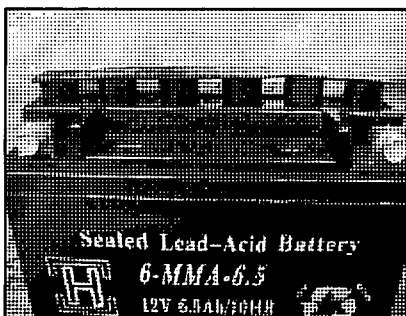

FIGURE 23
- After 30 minutes the battery is ready for its initial charge. Place cap strip loosely over the filling holes as shown in the picture. (see figure 23)